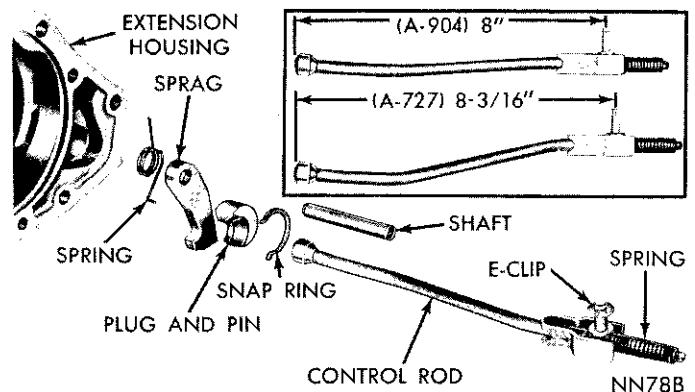

Fig. 27—Parking Lock Components
(1) Remove the extension housing.
(2) To replace the governor support and parking gear, refer to "governor and support".
(3) Slide shaft out of extension housing to remove the parking sprag and spring (Fig. 27). Remove snap ring and slide reaction plug and pin assembly out of the housing.
(4) To replace the parking lock control rod, refer to "Valve Body—Removal and Installation."
(1) Position sprag and spring in housing and insert the shaft (Fig. 27). Make sure square lug on sprag is toward the parking gear, and spring is positioned so it moves sprag away from the gear.
(2) Install reaction plug and pin assembly in the housing and secure with snap ring.
(3) Install extension housing.